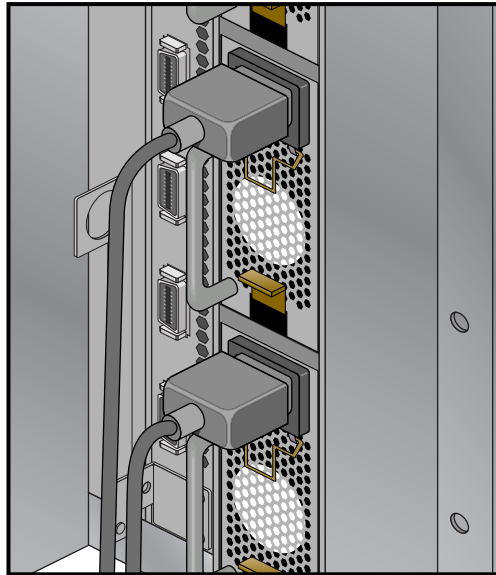

Figure 1-3 IRU Power Supply Cable Location Example
2. For each individual IRU that you want to power on, make sure that the power cables are plugged into all the IRU power supplies correctly, as shown in Figure 1-3. Setting the circuit breakers on the PDUs to the “On” position will apply power to the IRU and will start the chassis manager in each IRU. Note that the chassis manager in each IRU stays powered on as long as there is power coming into the unit. Turn off the PDU breaker switch that supplies voltage to the IRU if you want to remove all power from the unit.